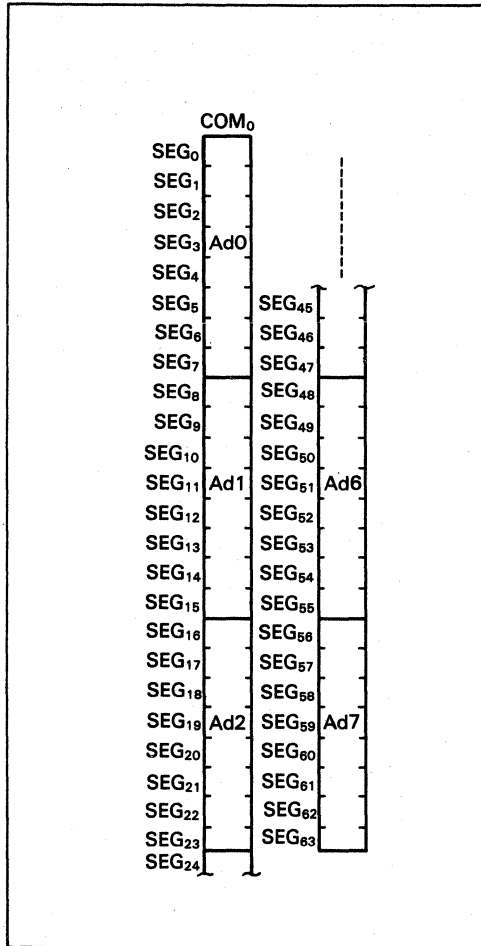
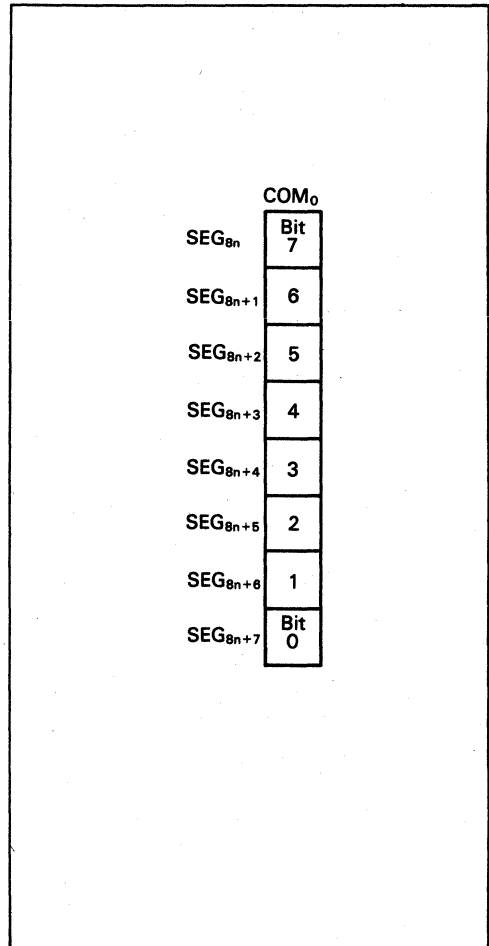

Figure 12 Allocation of Digits (HD61605)
Figure 13 Bit Assignment in an Adn (HD 61605)
The 8-bit data is written on a digit basis into the digit address (displayed as Adn) shown in figure 12. When data is transferred from a microprocessor, four 4-bit data are needed to specify the digit address and an 8-bit display data. Figure 13 shows the correspondence between each segment in an Adn and the transferred 8-bit data.
- Display address: Digit address Adn shown in figure 12.
- Display data: Pattern data written into the display RAM as shown in figure 13.